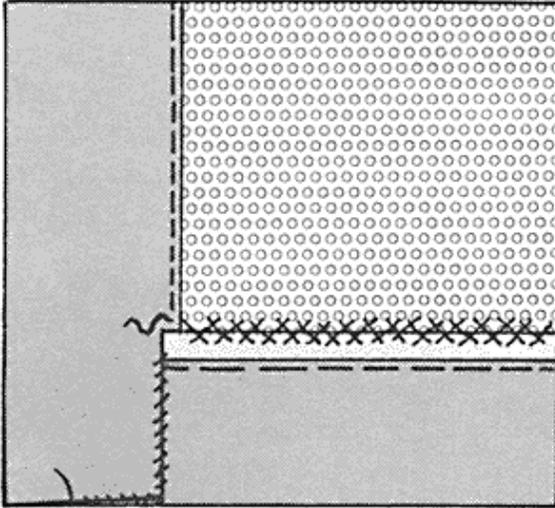

Figure 11.
- For light-weight fabrics that ravel easily, make a 1/4 inch clip at the top of the hem. Turn the fabric in below the clip. Pin and slip stitch that edge and across the lower edge in place (*Figure 11*).